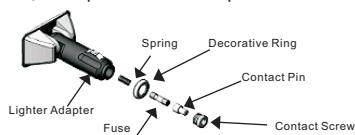

Figure 2. Fuse Replacement
CPS140BI contains a fuse inside in the Lighter Adapter (see Figure 2) to protect the unit against overloading. If the inverter draws more than 140 watts, the internal fuse may be blown to protect the inverter, vehicle battery and the connected equipment. To replace the fuse, please follow the instruction below:
5. Ensure all pieces showed in Figure 2 are installed in the sequence shown.